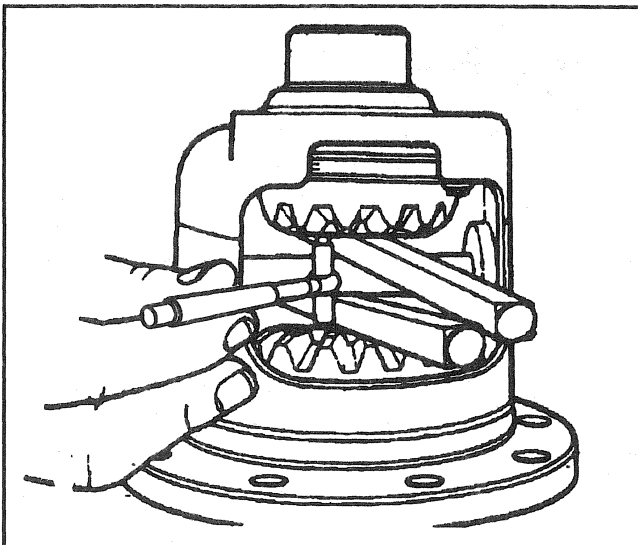

Figure 6—Measuring Side Gear Spread
1. Measure the side gear spread (Figure 6).